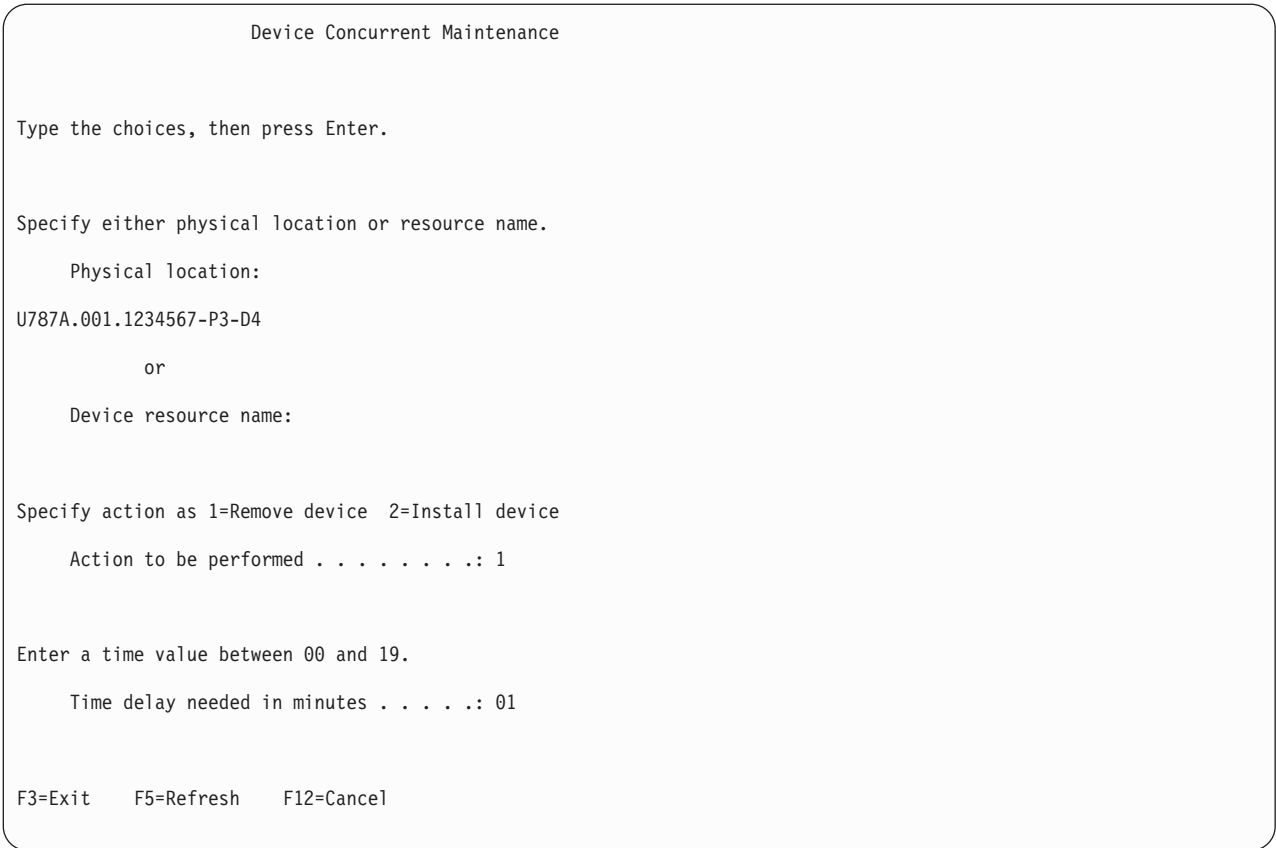

Figure 35. Example Device Concurrent Maintenance display
12. If the physical location does not appear in the Device Concurrent Maintenance display, type the physical location where you are replacing the disk drive as shown in the preceding example, Figure 35.